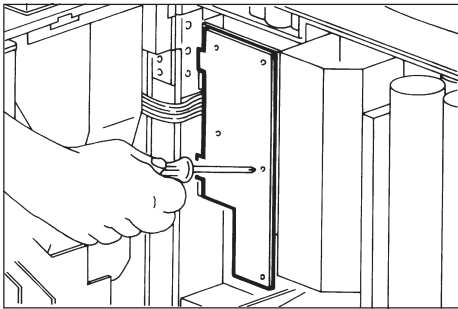
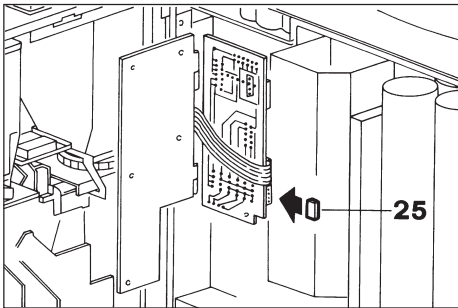

Fig. 11
Fig. 12
- To insert key, remove the three screws fastening the coin plate and turn the latter (Fig. 11) in order to gain access to the connector fitted on the selection panel board. The key must be inserted into this connector fitted on the selection panel board (Fig. 12).